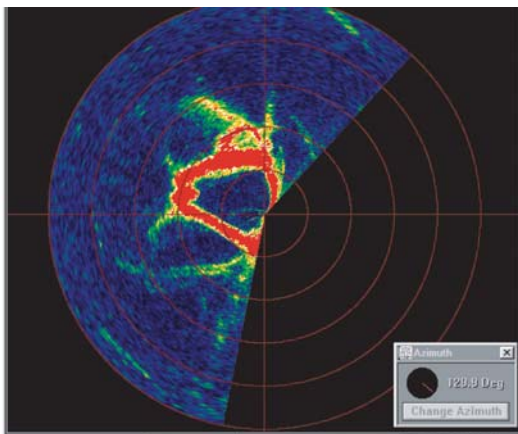

Fig. 21. Image taken with a DIDSON of adult salmon swimming at a range between two and four meters. [10]
4) Acoustics has the potential to allow estimation of the biomass in the cage. Emerging technologies in acoustics should be explored. A higher resolution, but more costly acoustic solution, would be to install a system such as the Dual Frequency Identification Sonar (DIDSON), which has been designed and built at the University of Washington Applied Physics Laboratory. DIDSON operates at two frequencies and can image objects from 1 to 30 meters in range. It results in near-video quality images that can be used to identify objects under water (Fig. 21) [13].